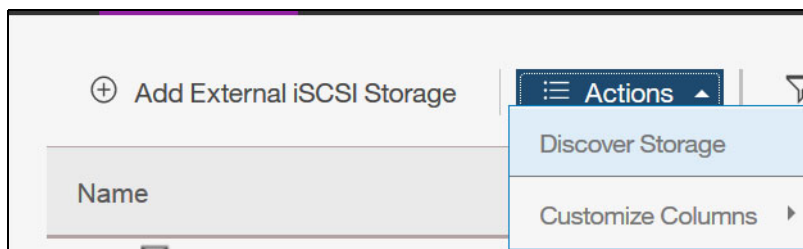

Figure 2-15 Detecting MDisks by using the SAN Volume Controller GUI
1. Detect the XIV volumes either by using the **svctask detectmdisk** CLI command, or use the SAN Volume Controller GUI that is shown in Figure 2-15 and click **Pools** → **External Storage** → **Actions** → **Discover Storage**.